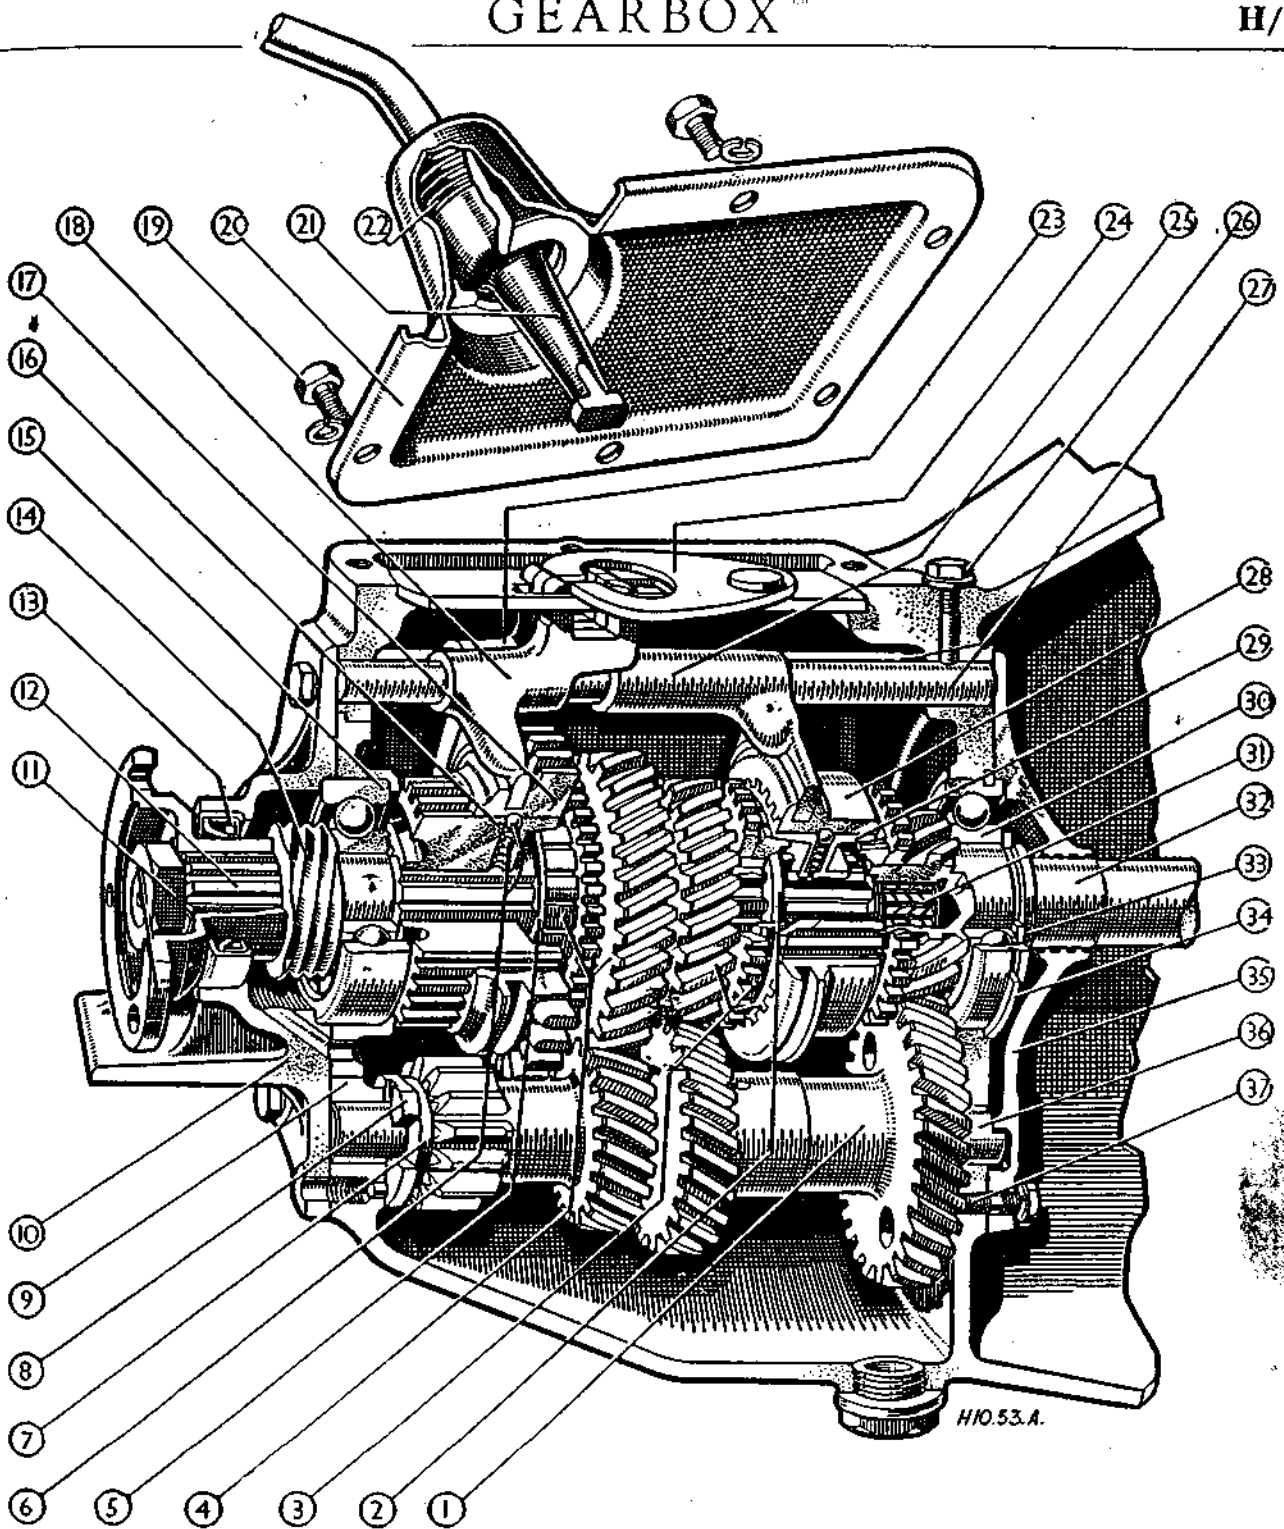

Fig. 1.
1. The withdrawal fork is secured in position on the operating shaft by a cycle-type cotter (see Fig. 1, page J/1), and it is best to remove this before dismantling any of the other clutch linkage as the operating rod holds the fork in the best position.